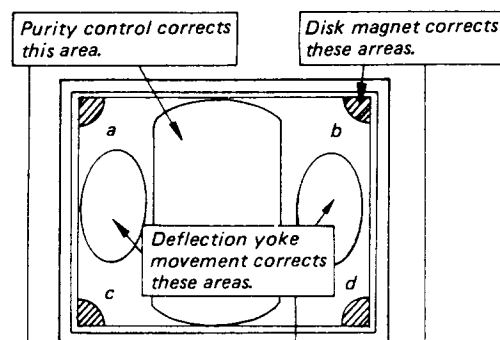
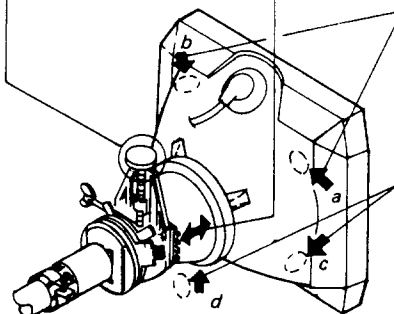

Fig. 1-3
Fig. 1-4
13. Check if mislanding appears at corners a-d as shown in Fig. 1-3. If mislanding is observed, correct it as shown in Fig. 1-4.